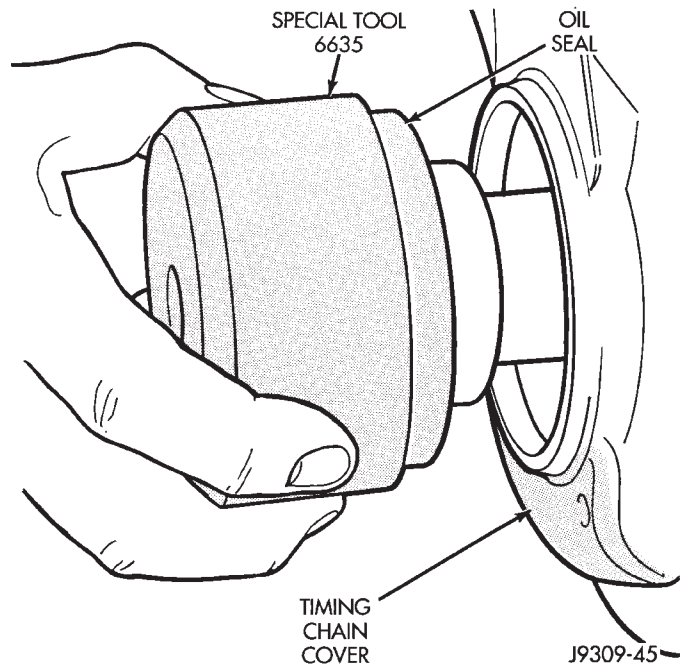
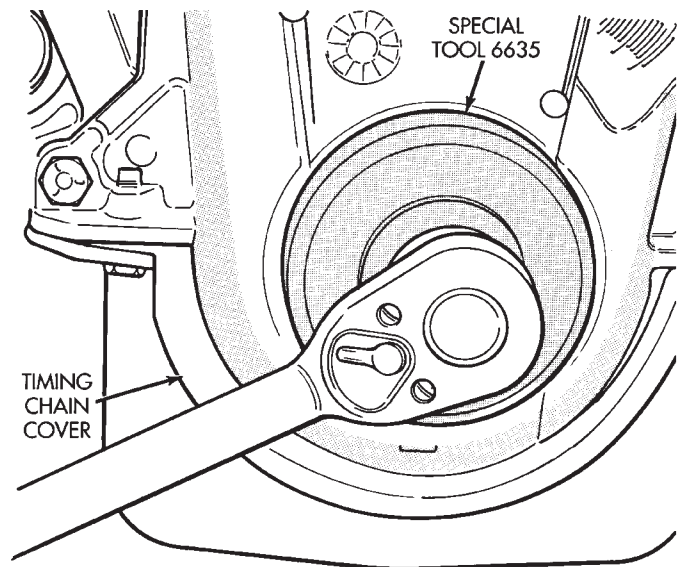

Fig. 35 Position Tool and Seal onto Crankshaft
Fig. 36 Installing Oil Seal
(4) Position the seal and tool onto the crankshaft (Fig. 35).
(5) Tighten the four lower chain case cover bolts to 13N·m (10 ft.lbs.) to prevent the cover from tipping during seal installation.
(6) Using the vibration damper bolt, tighten the bolt to draw the seal into position on the crankshaft (Fig. 36).
(7) Loosen the four bolts tightened in Step 4 to allow realignment of front cover assembly.
(8) Tighten chain case cover bolts to 41 N·m (30 ft. lbs.) torque. Tighten oil pan bolts to 24 N·m (215 in. lbs.) torque.
(9) Remove the vibration damper bolt and seal installation tool.
(10) Inspect the seal flange on the vibration damper.
(11) Install vibration damper.
(12) Install water pump and housing assembly using new gaskets. Refer to Group 7, Cooling System. Tighten bolts to 41 N·m (30 ft. lbs.) torque.